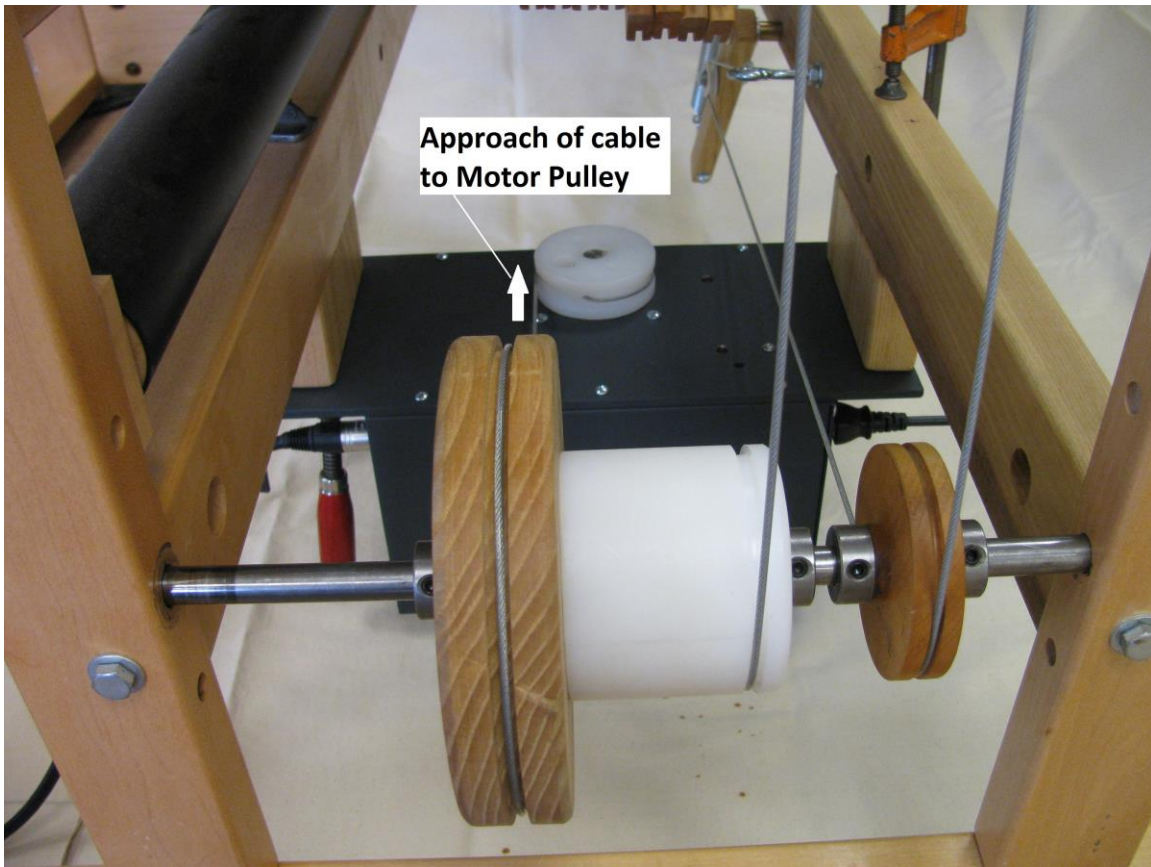

Fig. 6 – Path of Cam to Motor Cable
6) Un-tape the Cam to Motor Cable, which is wound around the Cam. One end of the cable is secured to the Cam in such a way that it is angled toward the floor. Continue this path, guiding the free end of the cable down and around the bottom of the cam, and across to the Motor. Run the cable across the front of the Motor Pulley, around and in the small hole located in the groove of the Pulley. Secure with the hitch pin provided. See Fig. 6. Rotate the Motor Pulley clockwise to take the slack out of the cable. Ensure that the cable does not overlap itself. When you have finished this step, the wrap of the cables should appear as in Figure 6.